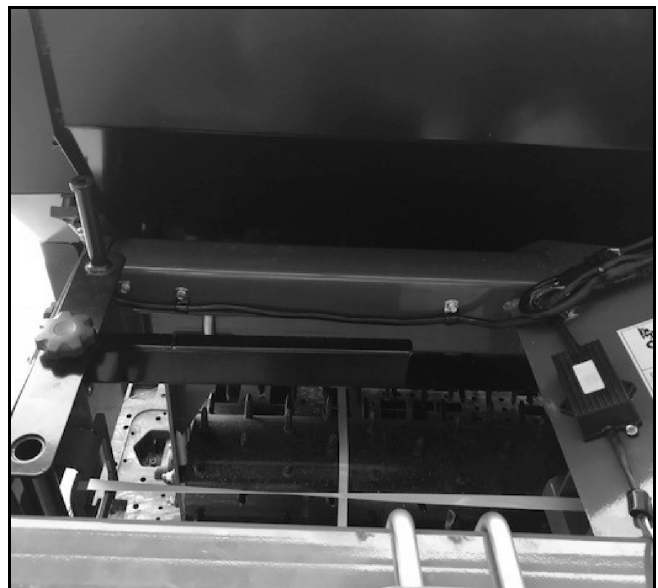

Figure 38. Intermediate Harness Routing
3. Install two LED red and amber light modules on the seed box cover with 1/4" x 1" long hex head cap screws. The amber lenses should be oriented toward the outside edge of the cover, facing rearward. Install with the hex head of the bolt on top of the module going through the seed box holes and applying 1/4" whiz nuts underneath the seed box cover. (See Figure 38).
5. Connect the intermediate harnesses to the appropriate light modules. Route lead wire through second 1/2" cushioned clamp. Remove forward mounting hardware from base of cool season seed box. Reinstall with cushioned clamp on top of seed box base. (See Figure 38).